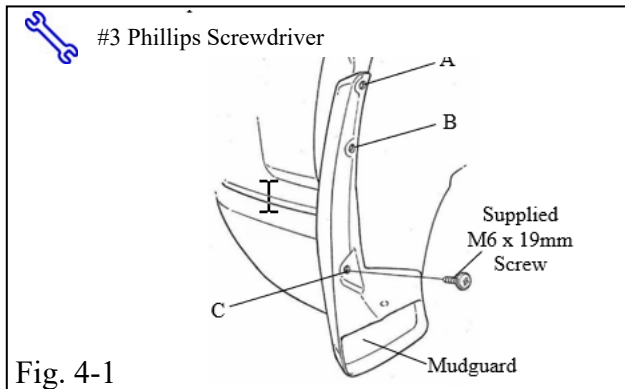

Fig. 4-1
- a. Mount mudguard while holding up and into panel install supplied M6 x 19mm screw in location C and tighten. (Fig. 4-1)